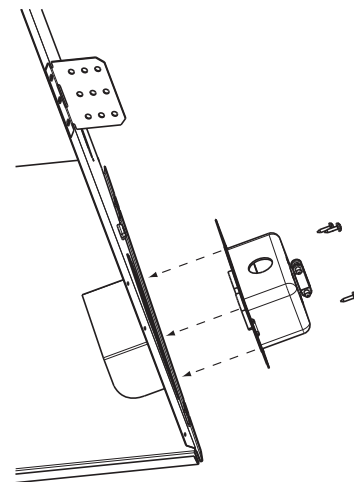

Figure 7.6 Attach the Junction Box
- Attach the junction box bracket to the side of the appliance. See Figure 7.6. Secure with the screws provided in the fastener package.